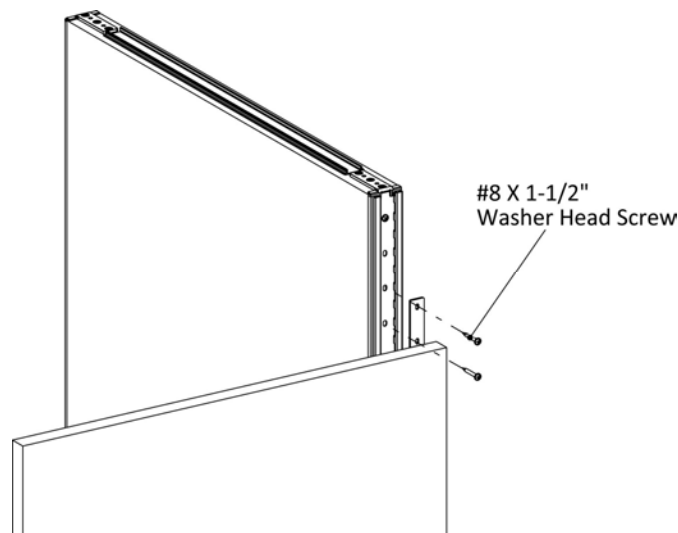

Figure 2
- 5. Drive two #8 x 1-1/2" Washer Head Screws through the holes in gallery panel intermediate bracket into the standard panel, (Figure 2).